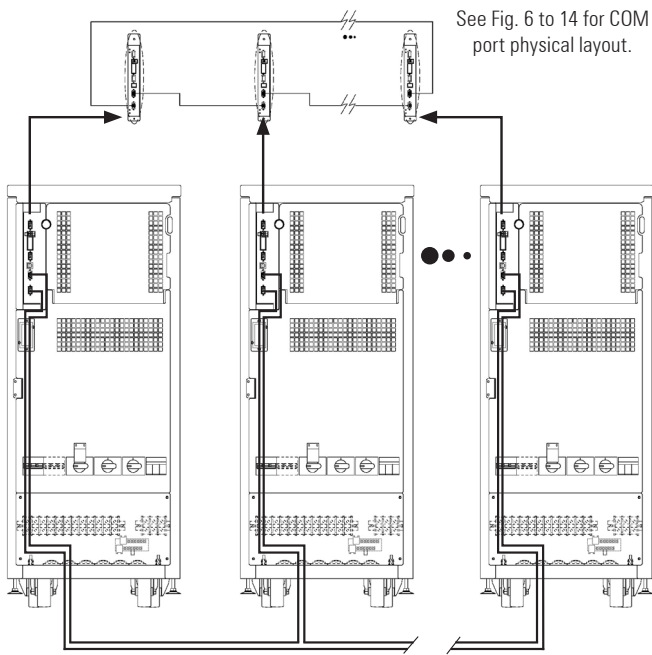

Fig. 38. Connection of the communication BUS.
- As an example, Fig. 38 shows, how the communication BUS connections have to be done.